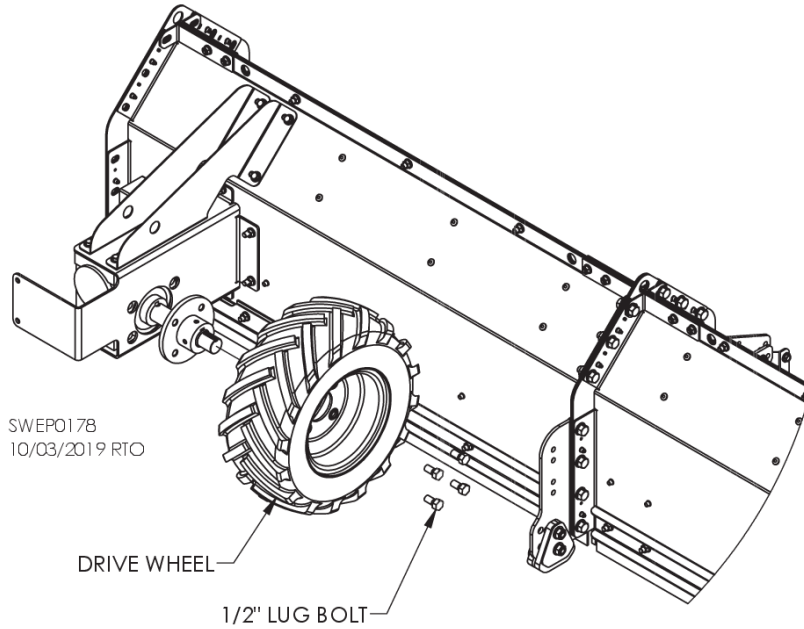

Fig. 11 – Attaching drive wheel to end section
After end (tail) section of paddle sweep is installed, lift as needed and attach drive wheel as shown in Fig. 11 using four (4) 1/2" lug bolts.